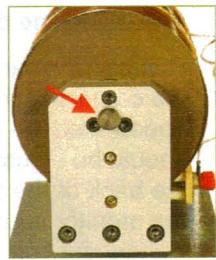

Figure 11a
- Remove the iron core from the right hand pole piece of the magnet by pulling out on the thumbscrew (Figure 11a). This opens a narrow hole through the pole piece for parallel viewing.